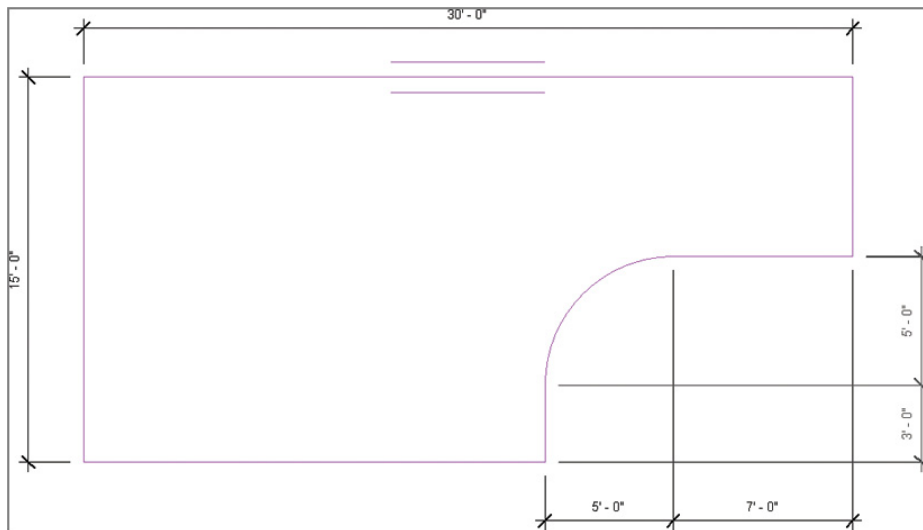

FIGURE 3.2 Modifying the floor sketch
2. Add additional sketch lines to generate the shape at the lower right in Figure 3.2. Don't forget to trim back any intersecting lines.